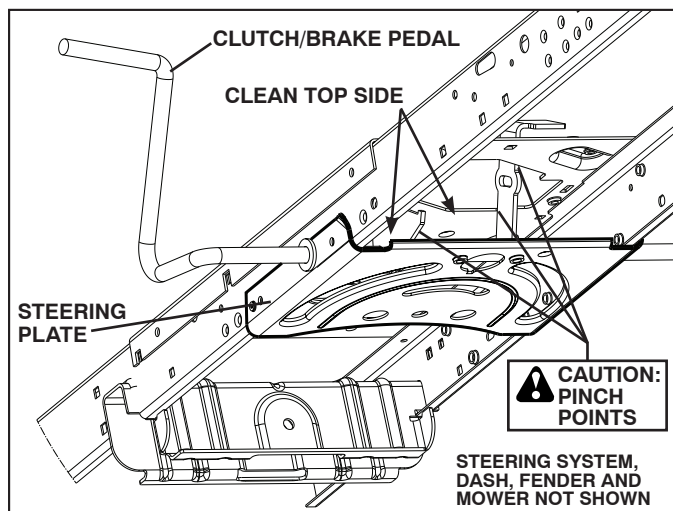

Fig. 21
**CAUTION: Avoid all pinch points and movable parts (See Fig. 21)**